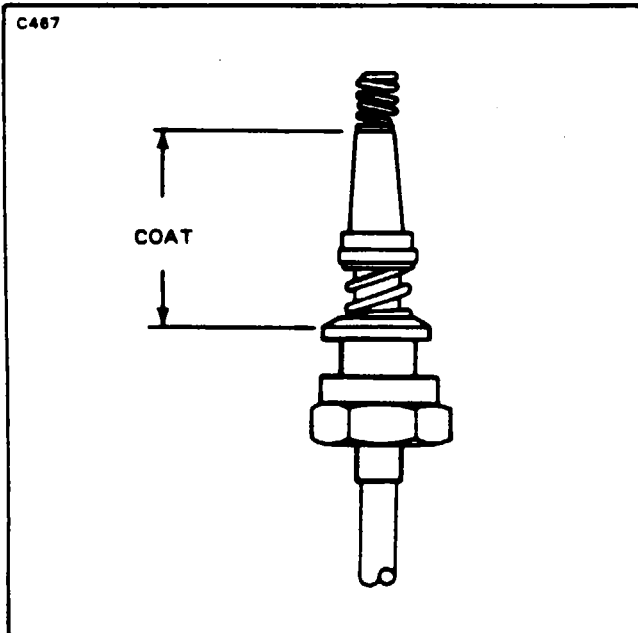
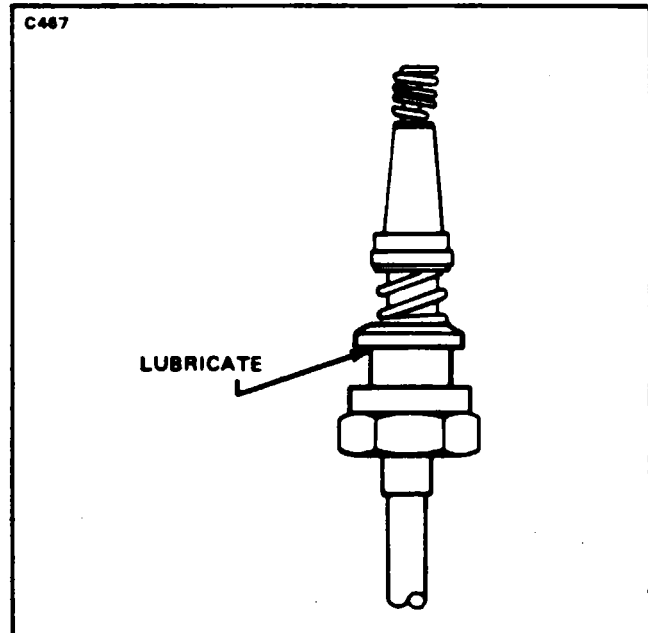

Figure 74-30. Lubricating Sleeve
Figure 74-31. Lubricating Ferrule Shoulder
9. Prior to seating spark plug lead terminal in plug barrel use fluorocarbon spray on spark plug terminal insulating sleeve (refer to Figure 74-30) to prevent heat from sticking sleeve to spark plug barrel. Lightly lubricate the shoulder of ferrule to minimize twisting of ferrule. (Refer to Figure 74-31.) Use GO-JONOLOK manufactured by Goger Inc., Akron, Ohio 44309.